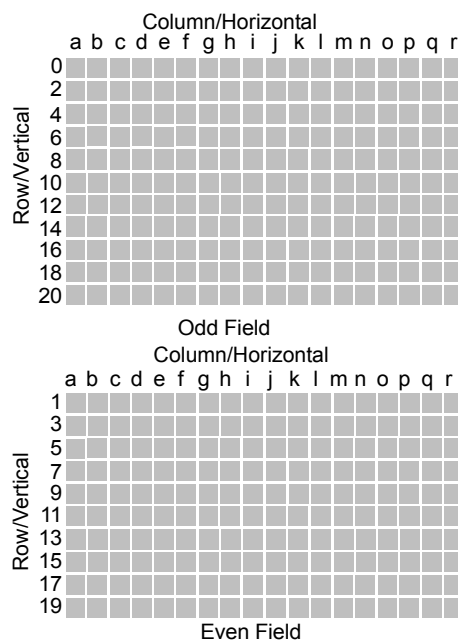

Figure 15: Interlace Read Out
Figure 15 shows a "*Scan Window*" of 21 rows and a "*Display Window*" of 21 rows and 18 columns. This is broken up into two fields:
- The odd field is read out first. The odd field will consist of pixels $a_0, b_0, \dots, r_0$; $a_1, b_1, \dots, r_1$; ... ; $a_{17}, b_{17}, \dots, r_{17}$ as shown in figure 15.
- The even field is then read out. The even field will consist of pixels $a_2, b_2, \dots, r_2$; $a_3, b_3, \dots, r_3$; ... ; $a_{19}, b_{19}, \dots, r_{19}$ as shown in figure 15.
Hence, for the example shown in Figure 15, the display window is broken up into two fields, as shown in Figure . Pixels $a_0, b_0, \dots, r_0$ followed by $a_2, b_2, \dots, r_2$ and so on until pixels $a_{20}, b_{20}, \dots, r_{20}$ in the even field are read out first. The even field read out is followed by pixels in the odd field, $a_1, b_1, \dots, r_1$ then $a_3, b_3, \dots, r_3$ until pixels $a_{19}, b_{19}, \dots, r_{19}$.